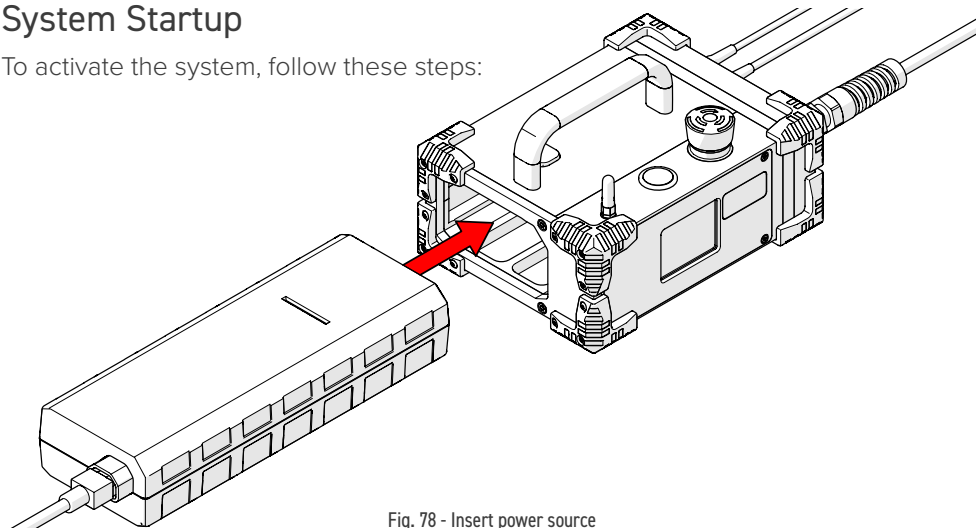

Fig. 78 - Insert power source
1. Insert the power source (Fig. 78) into the system controller dock.